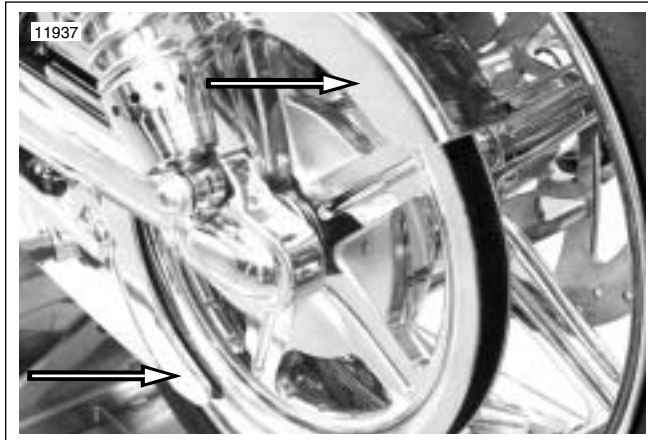

Figure 2-17. Belt Guard and Deflector
1. See Figure 2-17. Remove left side lower shock mount bolt from belt guard without removing shock mount bolt from rear fork.
1. See Figure 2-17. Remove fastener and washer from underside of rear fork near rear shock mount.